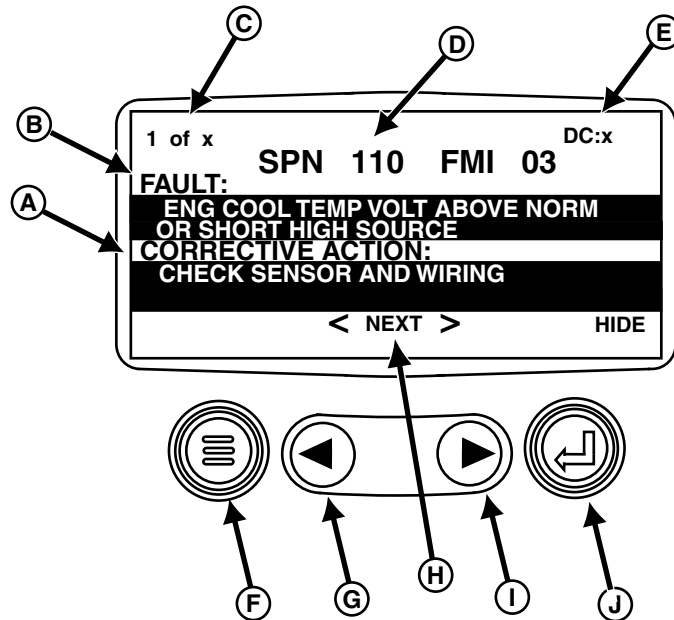

Figure 2. Stored Code Diagnostic Screen
4. A new screen showing stored code information appears. See figure 2. If there are no stored fault codes, "No Stored Fault Codes" screen is momentarily displayed. The diagnostic gauge then returns to main menu display. Press the MENU KEY (E) to get back to the parameter display screen.